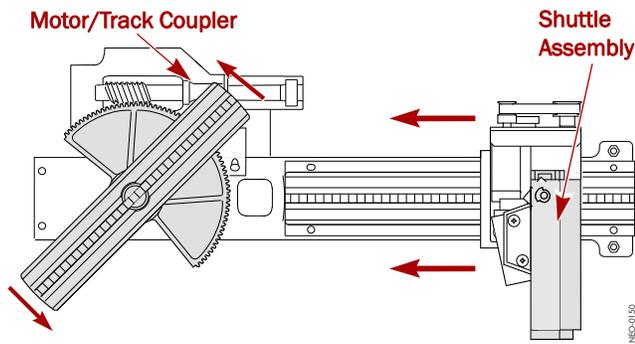

Figure 13. Top View of Track Showing Movable Section
- a. By hand, turn the track **motor/track coupler** until it is at a 45° or greater angle (Figure 13).